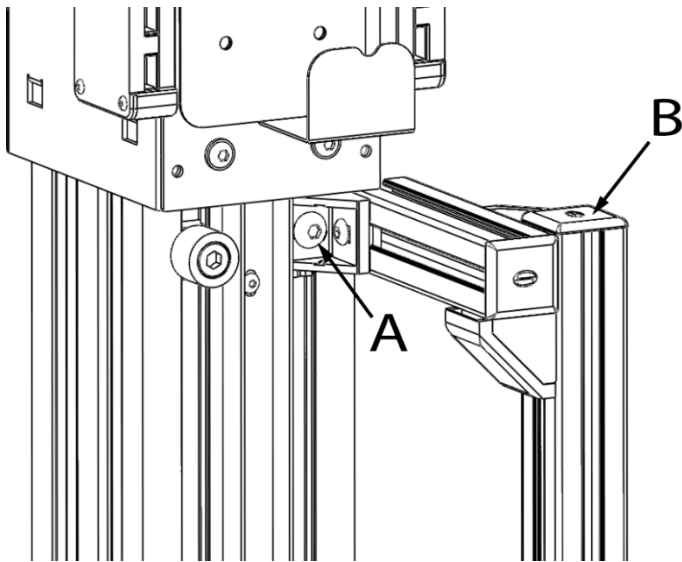

Figure 3
6. Insert the included shorter M8 screw into the mounting bracket at the top of the vertical support and thread it into the groove nut on E-Billy (Figure 3 - A).
11. Install the included plastic cover on the top of the vertical support (Figure 3 - B).